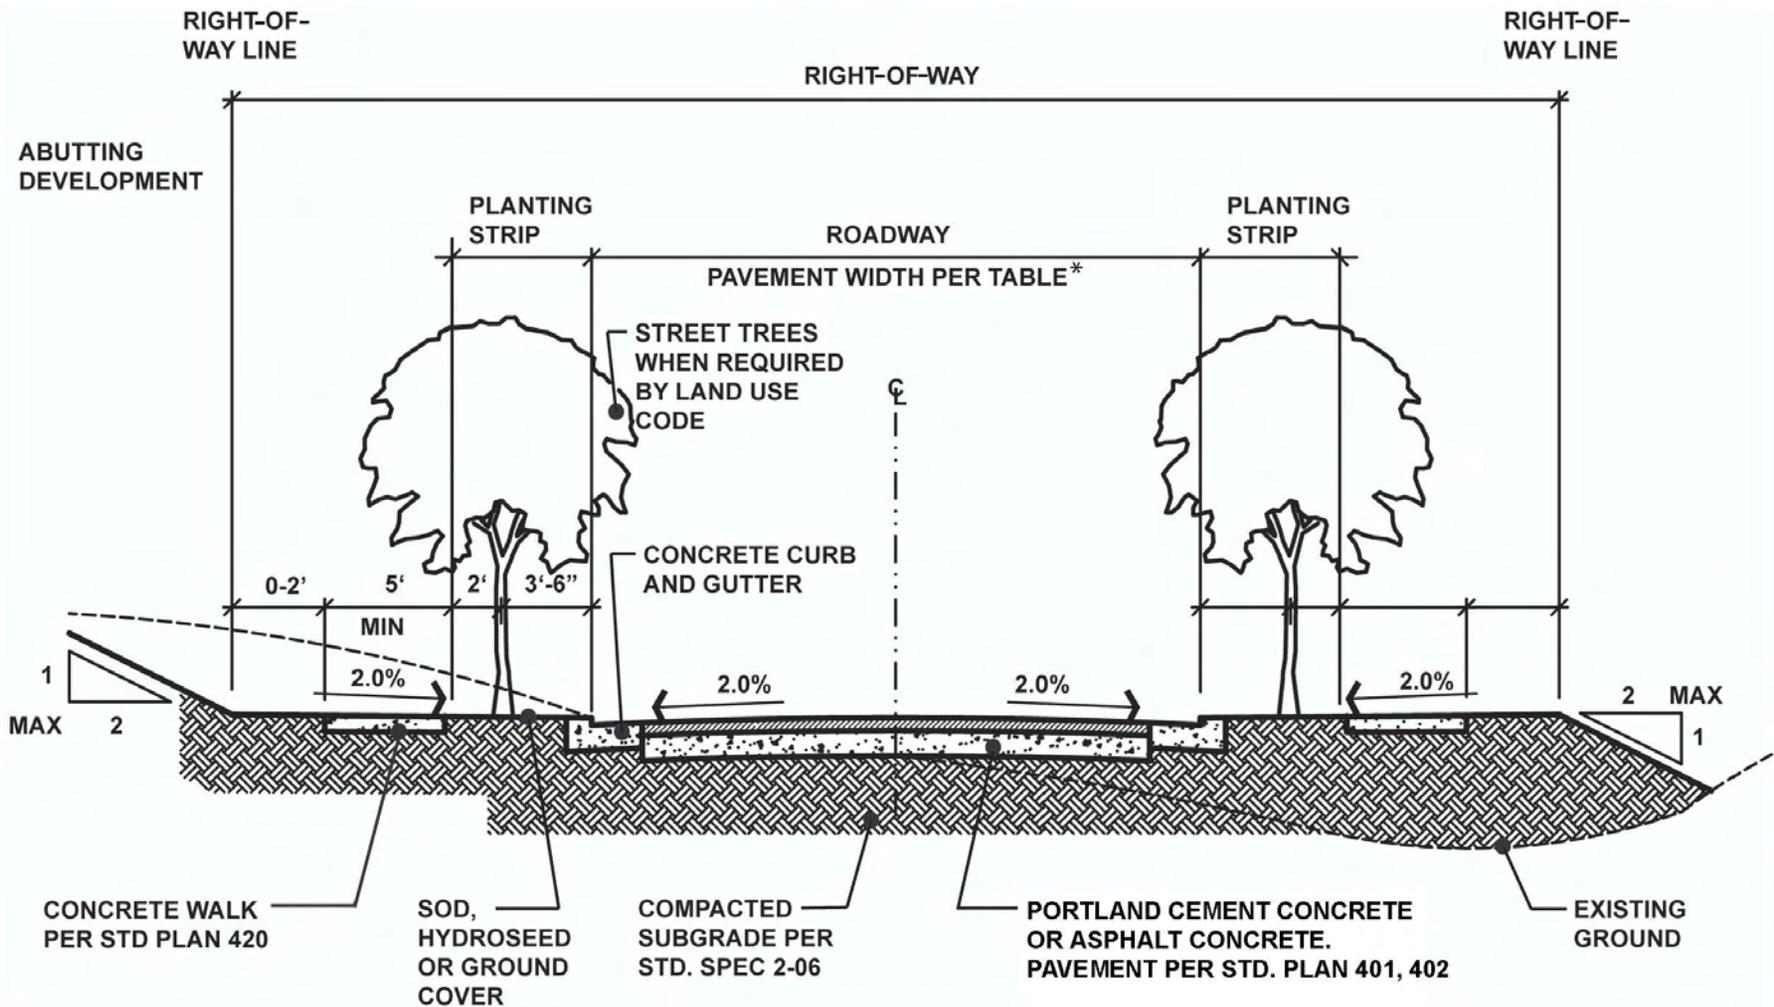

Figure 3-14 September 2005
- Full Improvements for Newly Dedicated Streets Cross Section (ROW Improvements Manual Figure 3-14)
The various reference documents cited above will guide both the definition of the requirements and the design criteria for fulfilling the requirements. Refer to Figure 3-14 in the Right-of-Way Improvements Manual for a depiction of a standard street cross section.